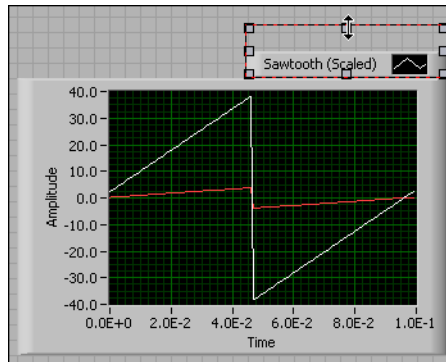

Figure 1-11. Expanding a Plot Legend
2. When a double-headed arrow appears, shown in Figure 1-11, click and drag the border of the plot legend until the second plot name appears.